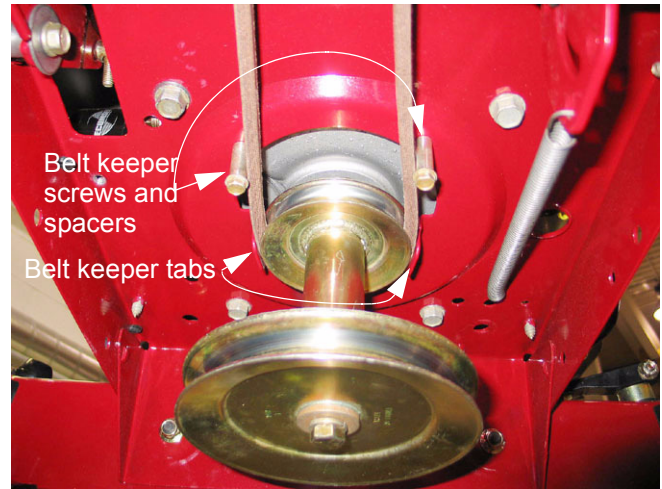

Figure 8.3
- 8.3. Remove the crankshaft pulley using a 5/8" wrench. See Figure 8.3.